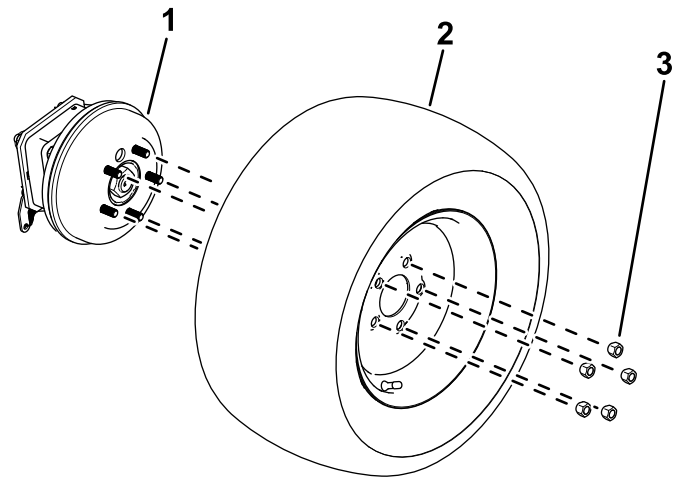

Figure 11
2. Loosen and remove the wheel lug nuts (Figure 11).
3. Removed the wheels from the wheel hubs (Figure 11).
1. Use the previously-removed lug nuts to secure the tires to the wheel hubs (Figure 11).